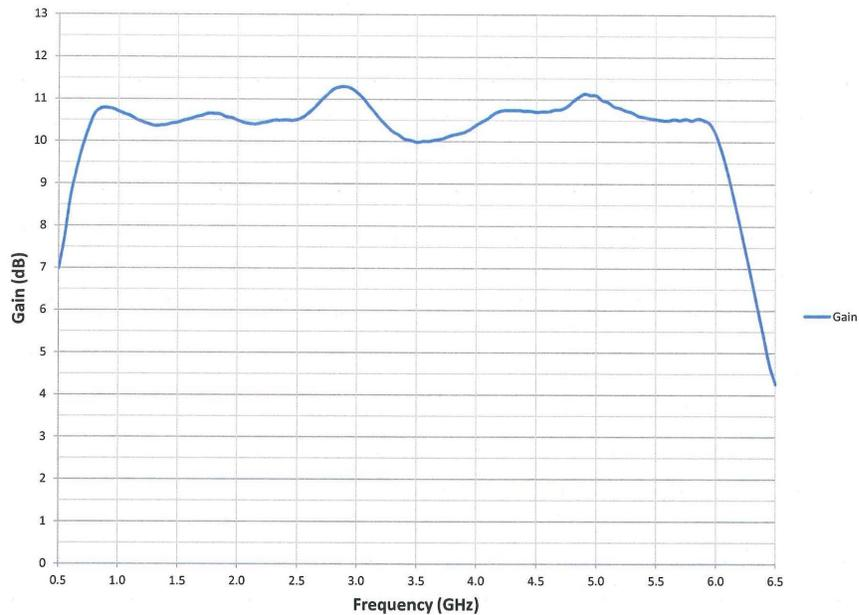

Figure 4-6. Typical Quad Amp Response
7. If the response of the output stages (i.e., A3 Quad Amp input to front panel RF output) is normal, check the response of the A2 Quad Amp (see Figure 4-6).